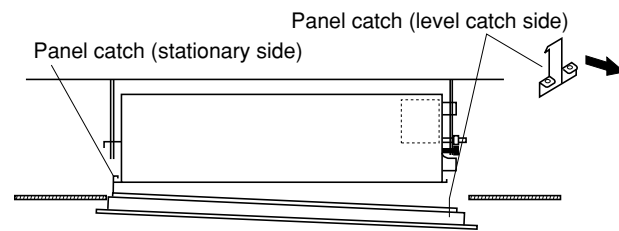

Fig. 9-8
- (1) Lift the ceiling panel and position it to align the panel catches with the catch recesses of the indoor unit.
- (2) Hook the stationary catch first and then press up on the opposite side to engage the level catch to install as shown in Fig. 9-8.
Completely remove the ceiling panel by disengaging the stationary catch. (Fig. 9-8)